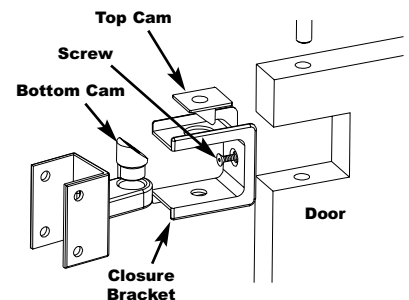

FIGURE 7
- Insert a top nylon cam into the upper and lower door hinge closure bracket as illustrated so that cam base is flush with inner bracket surface. See figure 7.
- Insert each door hinge closure bracket (with top cam in place) into the upper and lower openings in the door, anchoring with #10 x 1" screw. See figure 7.
- Insert bottom nylon cam into the pilaster portion of the hinge bracket assembly. See figure 7.